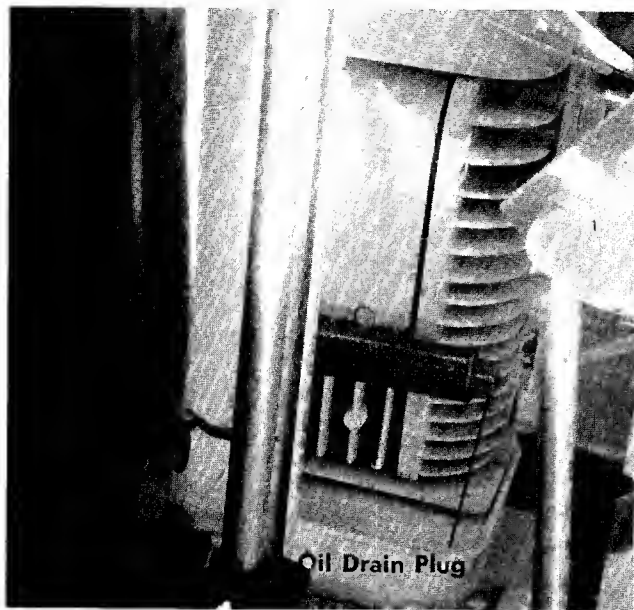

FIGURE 13. OIL DRAIN
- Step 1. With the machine on level ground, place a suitable metal container under the oil drain plug located on the front of the engine. See figure 13.